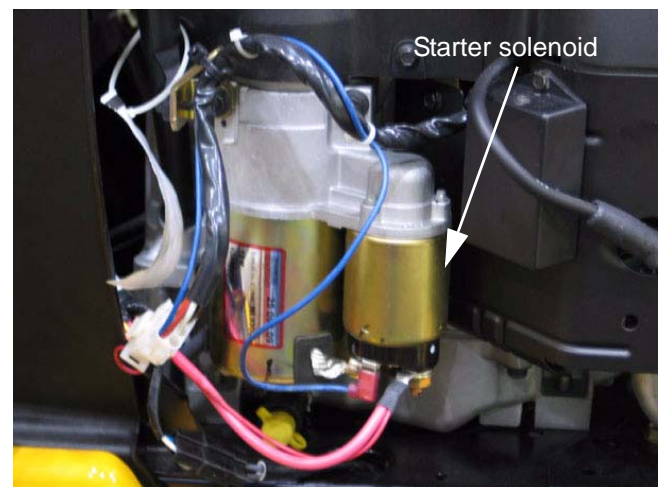

Figure 39.10
- 39.10. The starters on the Kohler Command engines have the starter solenoid on the starter. See Figure 39.10.